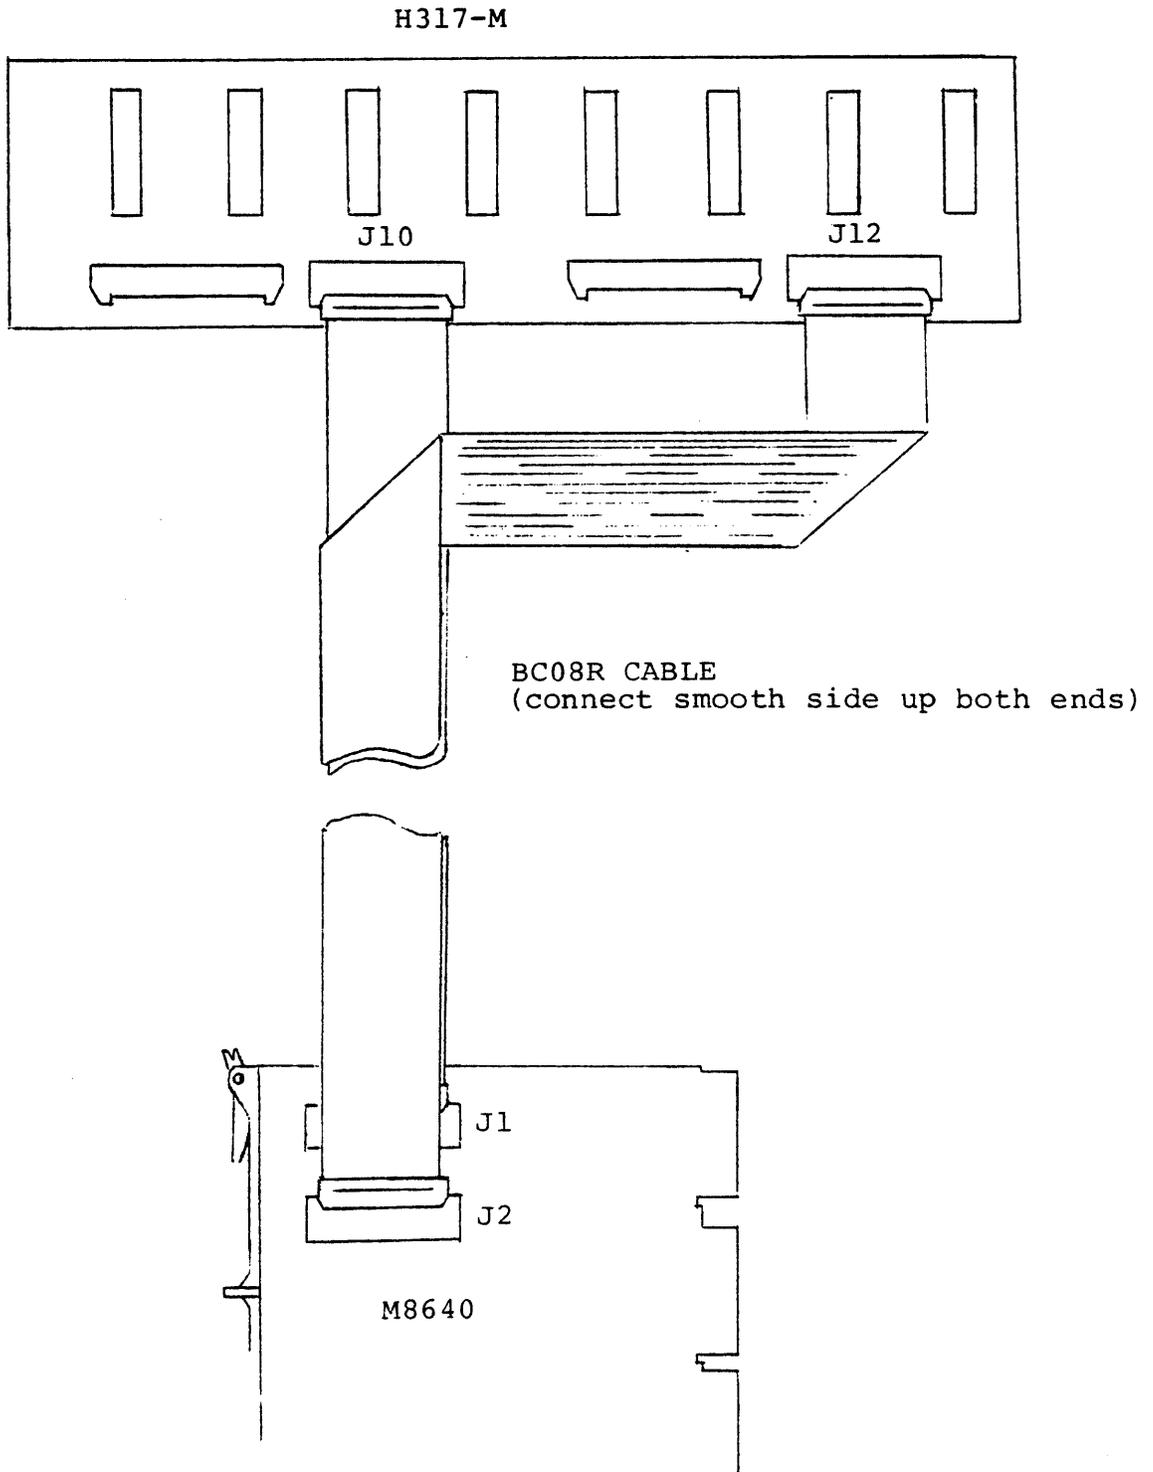

Figure 2-8 DM11-BA to H317-M Cabling
4. Connect the two BC08R-10 cables to the M8640 module and H317-M Distribution Panel as shown in Figure 2-8.